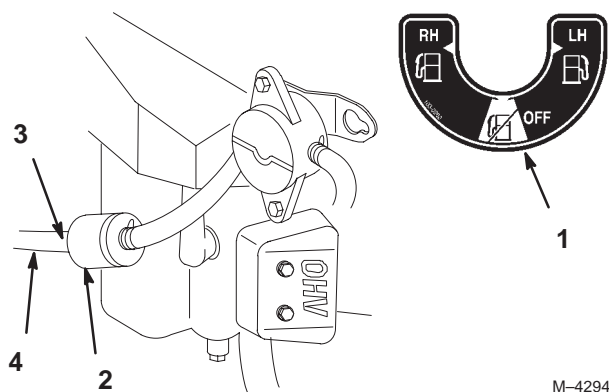

Figure 39
6. Install a new filter and move the hose clamps close to the filter (Fig. 39).
2. Close fuel shut-off valve (Fig. 39).
3. Loosen the hose clamp at the fuel filter and slide it up the fuel line away from the fuel filter (Fig. 39).
4. Pull the fuel line off fuel filter (Fig. 39).
5. Open fuel shut-off valve for left and right tanks. Allow gasoline to drain into a gas can or drain pan. (Fig. 39).
6. Install the fuel line onto the fuel filter. Slide the hose clamp close to the fuel filter to secure the fuel line (Fig. 39).